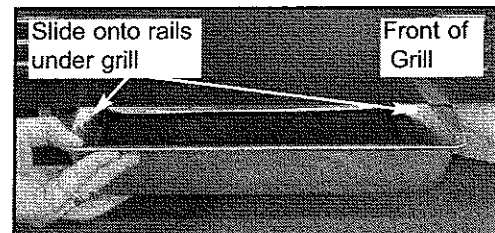

Fig. 16
1. The drip pan is located inside of the cart under the grill head. Slide Drip Tray in from the front of the grill and cart, fitting the ledges on the two rails that are located on the bottom of the grill. (See Fig. 16)